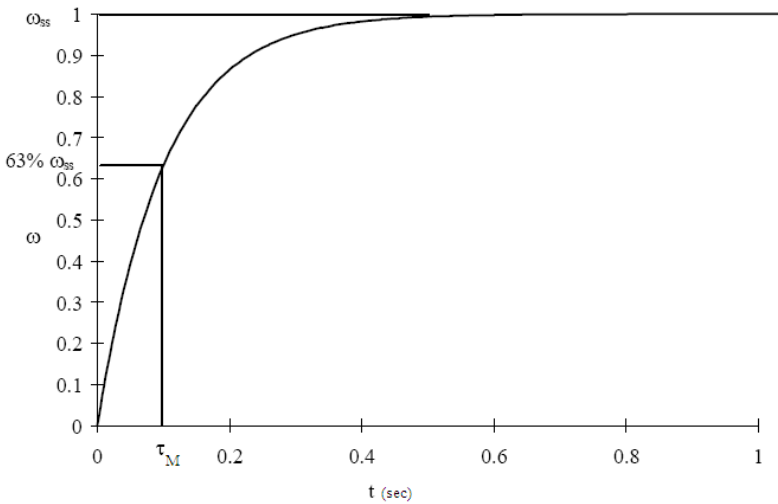

Figure 2-2
The Angular velocity response of this system to a unit step voltage is shown in Fig. 2-2.
We noticed that the angular velocity ω reaches a steady state value $V_a K_{motor}$ when $t \rightarrow \infty$. This steady state behavior is important in that if one were to ignore the transient response of the system, the motor can be viewed as a purely static system. The motor response in Figure 2-2 involves a transient effect best described in terms of time constant τ_m . It is defined as the time it takes for the response to reach 63.2% of its steady state, or final value.
- 6) Refer to Figure 2.2, find the cursor of 63.2% of V_{tach} . Move 2nd cursor along ch2 wave, read $\Delta: 1.08V$ (if we assume $V_{tach}=1.7V$, 63.2% of 1.7 is 1.08), the $\Delta: 23ms$ is our time constant τ_m . Press **HARDCOPY** to print two copies of the above waveform.